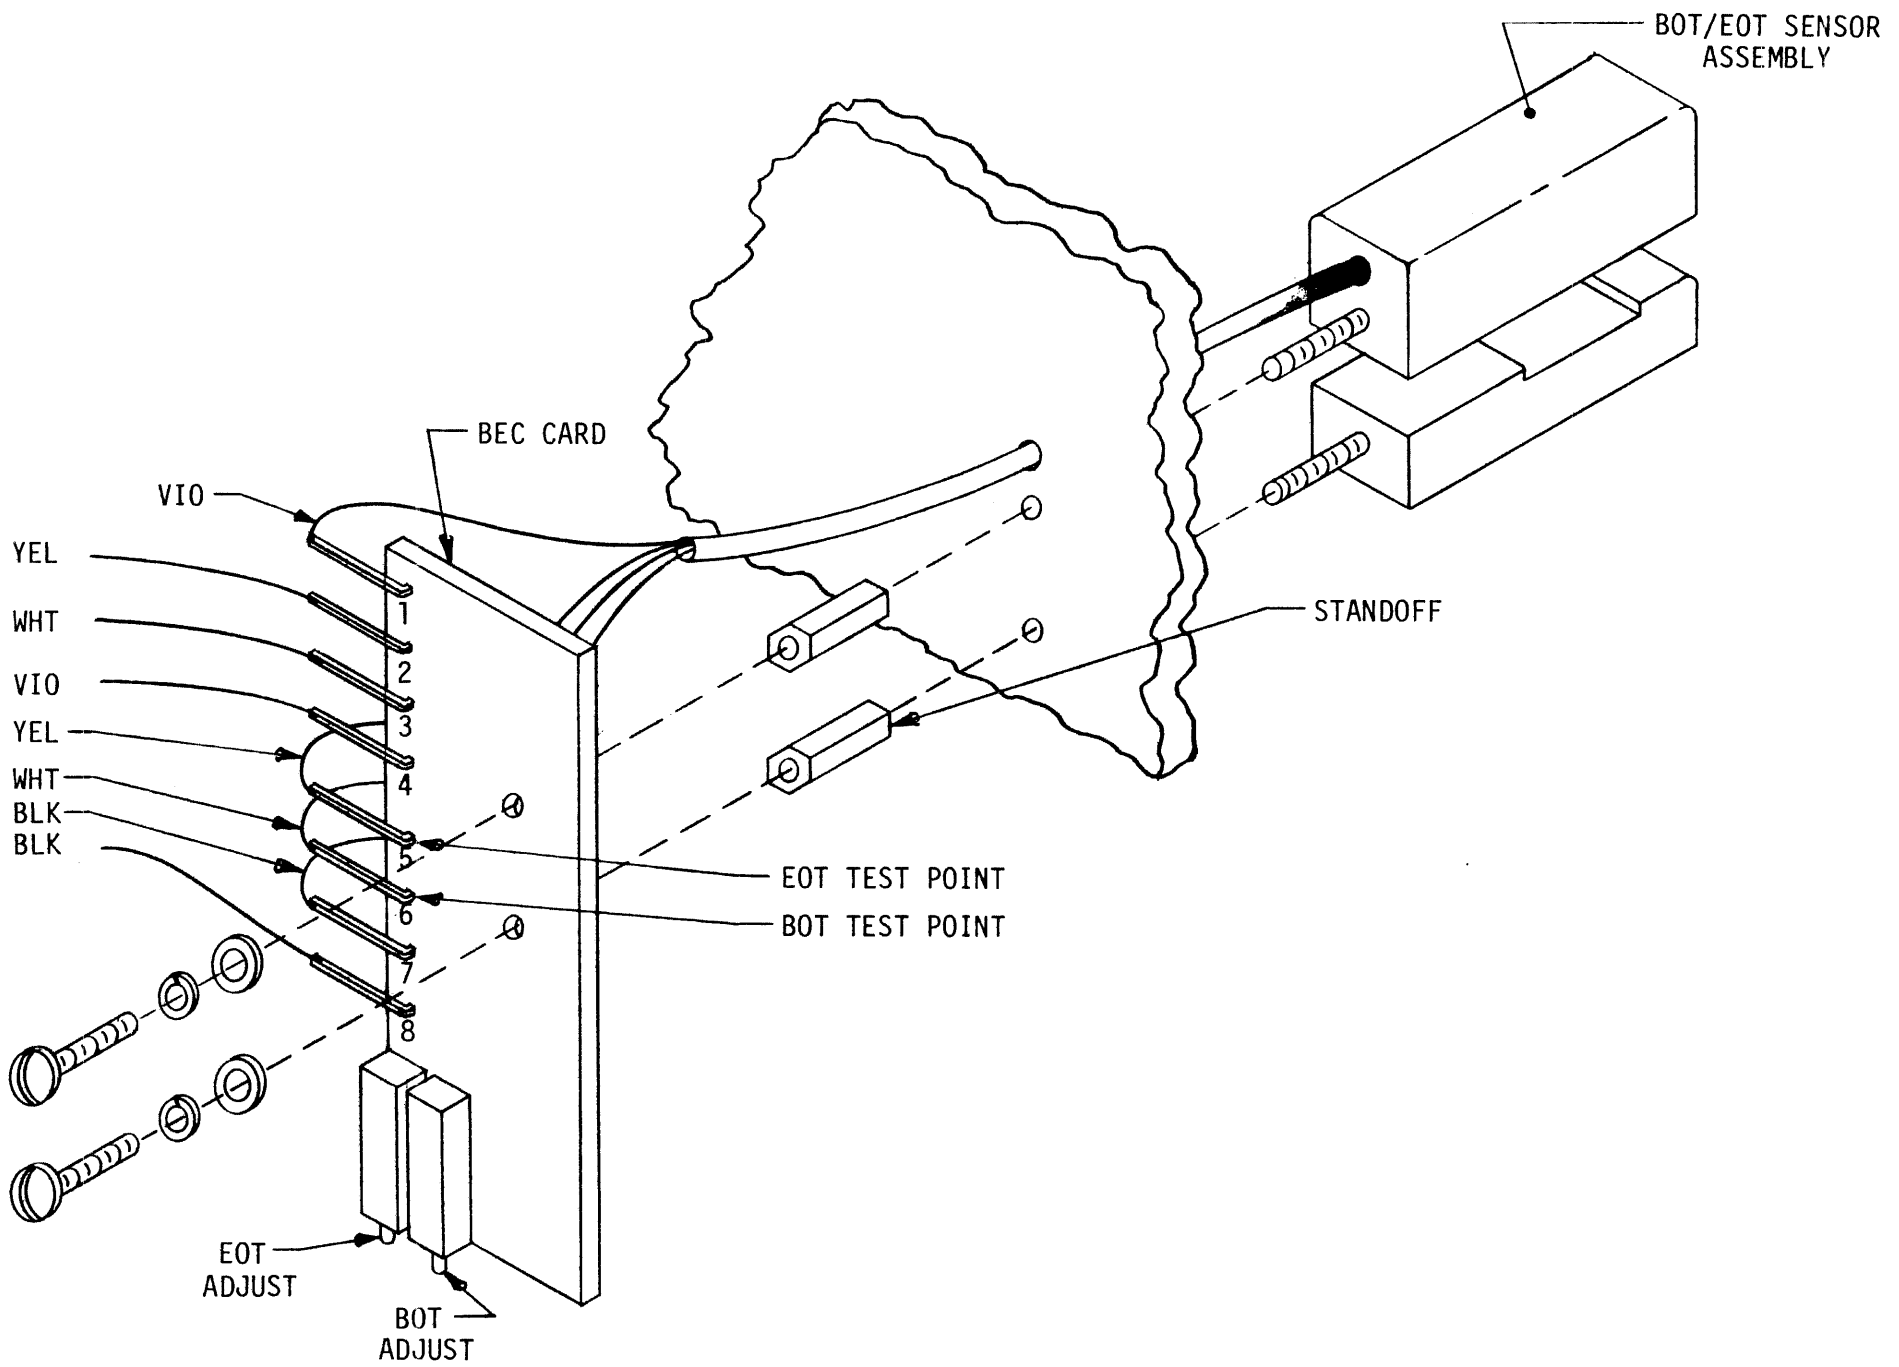

Figure 9-3,
9.5.1 BOT/EOT SENSOR ASSEMBLY. To replace the BOT/EOT sensor assembly perform the following sequence while referring to figure 9-3,